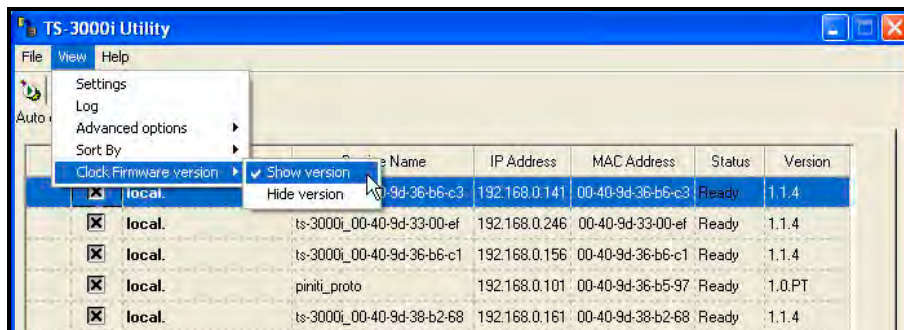

Figure 5-22. Show Firmware Version.
- **Clock Firmware version** – Use this function (see Figure 5-22) to show the clock firmware version in the list of discovered TS-3000i clocks. If left on Hide, the list will be generated without listing the version for the discovered clocks.